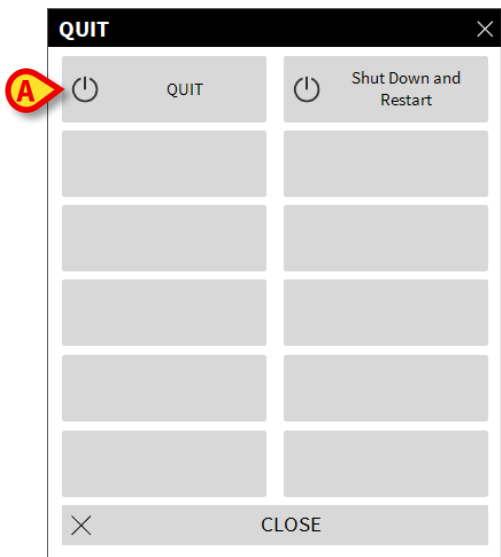

Fig 42
Another menu is displayed (Fig 42).
- Click the **Quit** button again (Fig 42 **A**)